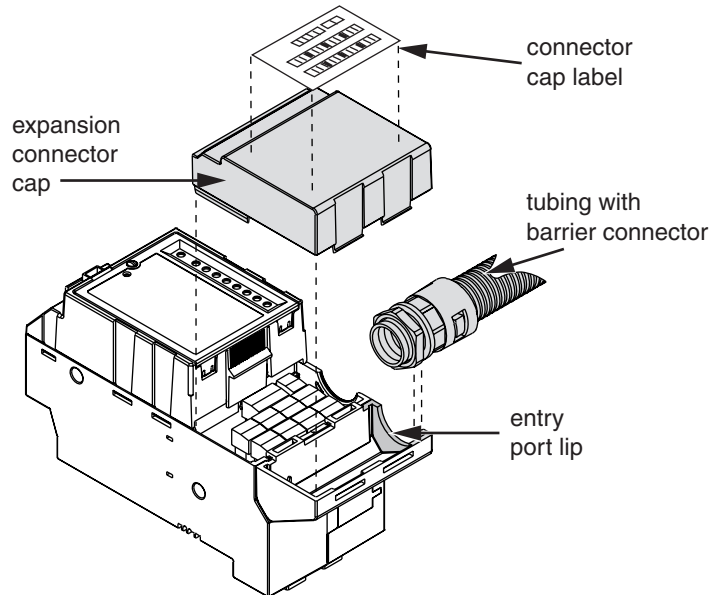

Figure 6: Assembling the connector cap
8. Aligning the space between the nut and the barrier connector with the entry port, push down on the barrier connector until it is securely attached to the lip of the entry port (see Figure 6).
9. Slide the expansion connector cap on until it snaps into place (see Figure 6).